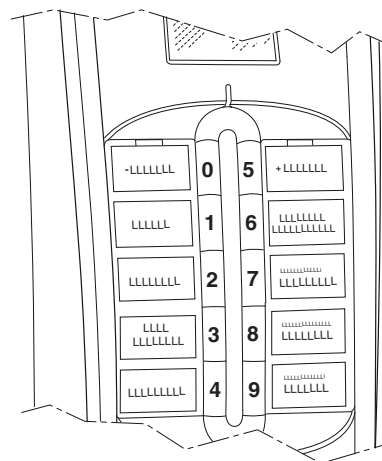

Fig. 12
- Press and hold key number 9 (see Fig. 12) for two seconds.